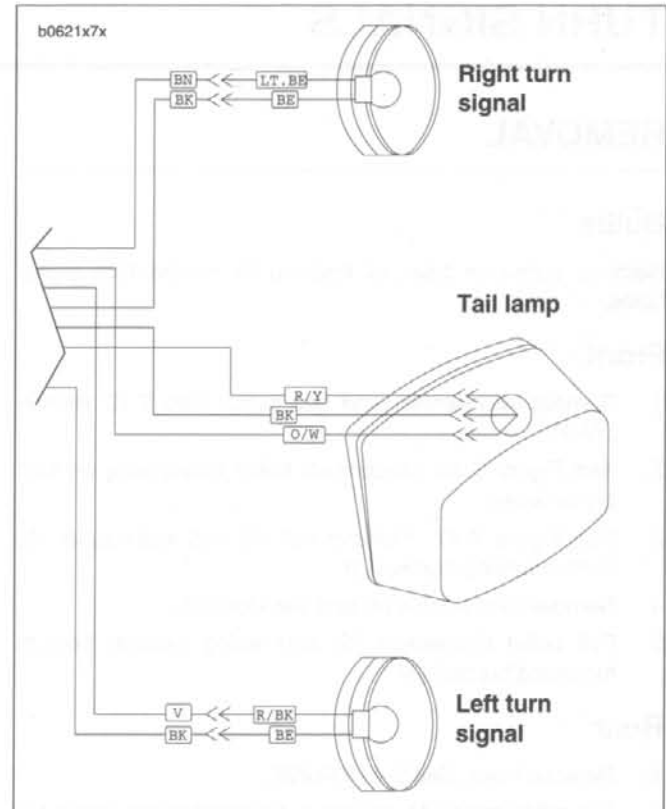

Figure 7-48. Rear Turn Signal Connections
3. See Figure 7-48. Disconnect bullet connectors on turn signal wires.
2. Attach bullet connectors on turn signal wires as shown in Figure 7-48.